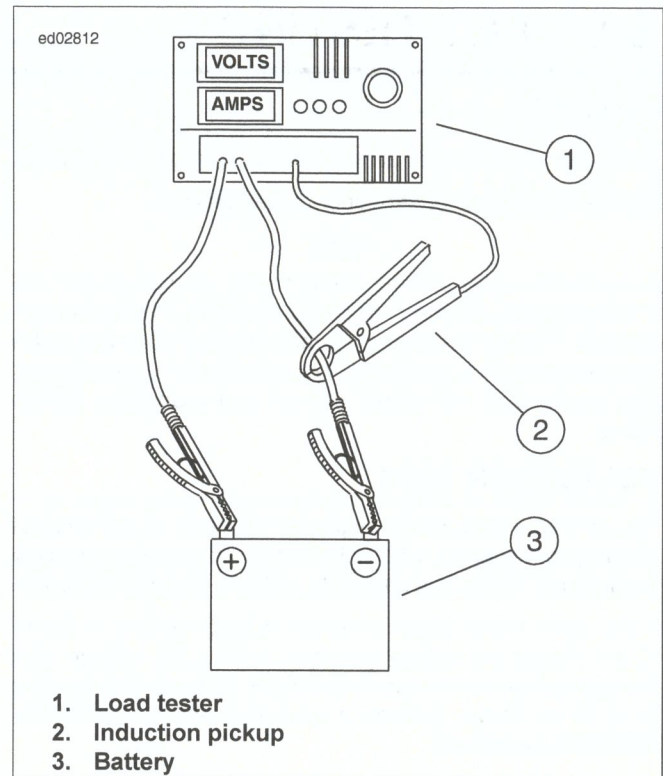

Figure 2-2. Load Test Battery
2. See Figure 2-2. Connect tester leads to battery posts and place induction pickup over negative (black) cable.